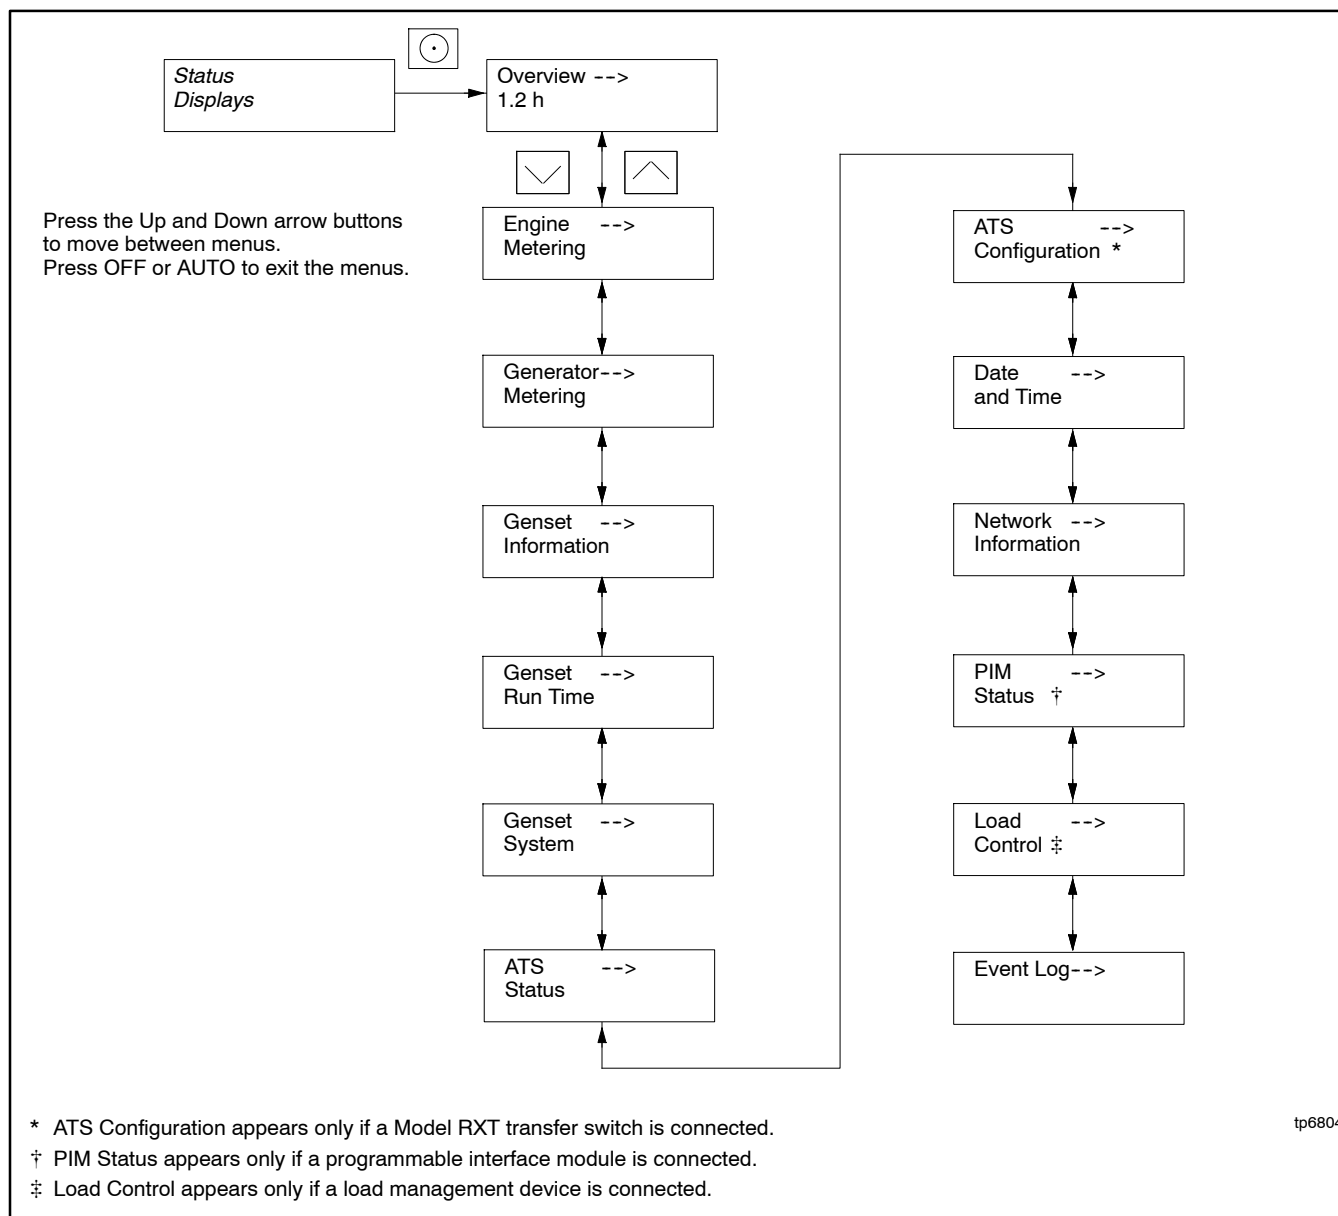

Figure 3-7 RDC2 Main Menu
2. Press the down arrow button until the desired menu is displayed. See Figure 3-7. Date and Time are used for this example.
Press the Select button once to bring up the main menu. Overview is displayed. See Figure 3-7. Press the down arrow button to step to the next menu, Engine Metering. Use the UP and DOWN arrow buttons to step up and down through the menus shown in Figure 3-7.